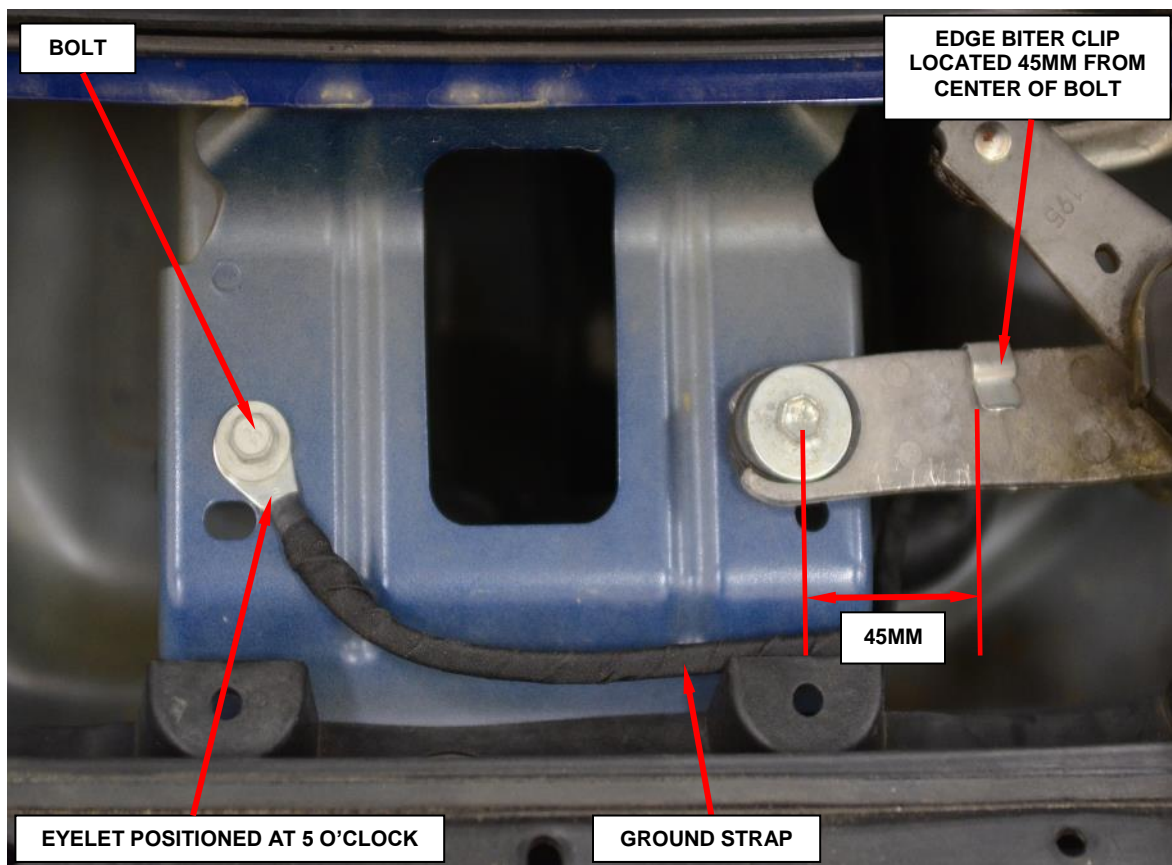

Figure 6 – Ground Strap Routing
- b. Secure the ground strap eyelet to the center support using the supplied bolt and tighten to 49 in. lbs. (5.5 N·m) (Figure 6).
NOTE: Ensure that the wire and ground strap eyelet are oriented as shown in Figure 6 and the eyelet does not rotate from the 5 o'clock position when the bolt is tightened.
- c. Install the edge biter clip as shown to the rear edge of the wiper bracket, 45mm from the center of the wiper bracket mounting bolt to the edge biter clip (Figure 6).